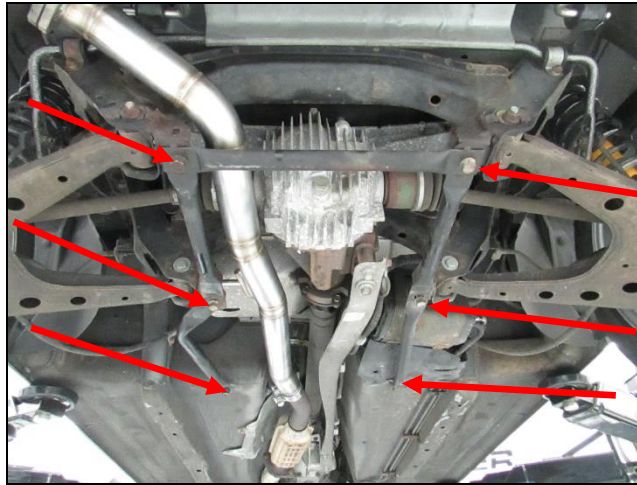

Figure 9
3. Install the OE brace. Tighten (x6) 17mm head bolts (**Figure 9**).